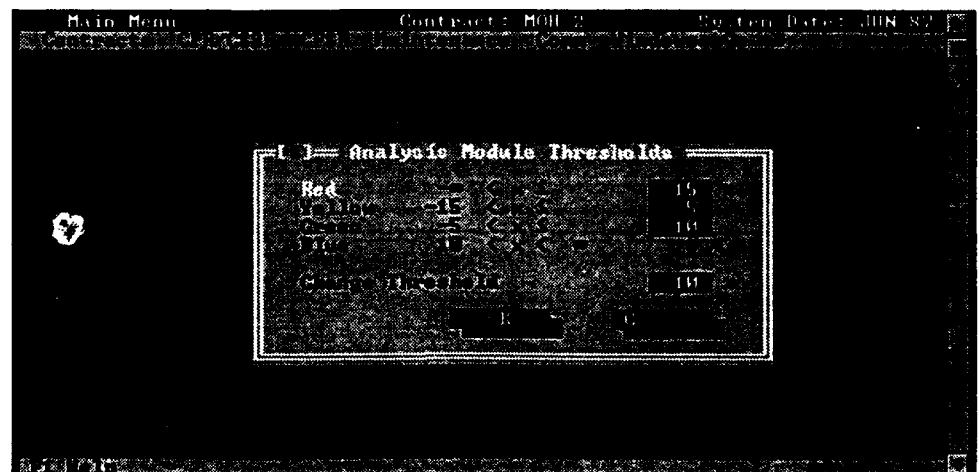

Figure 8-2
The contract status colors are based upon schedule variance (SV), cost variance (CV), and variance at completion (VAC) percentages. A color is assigned to a contract if the variance percentage falls within a color's threshold. The thresholds for each color is loaded by the PA analyst (see Analysis Module Thesholds in Section 3.2, Initial Setup) (Figure 8-2) shows the standard status color thresholds. Different color thresholds can be applied. The color thresholds are modified from the Main menu bar in PA.